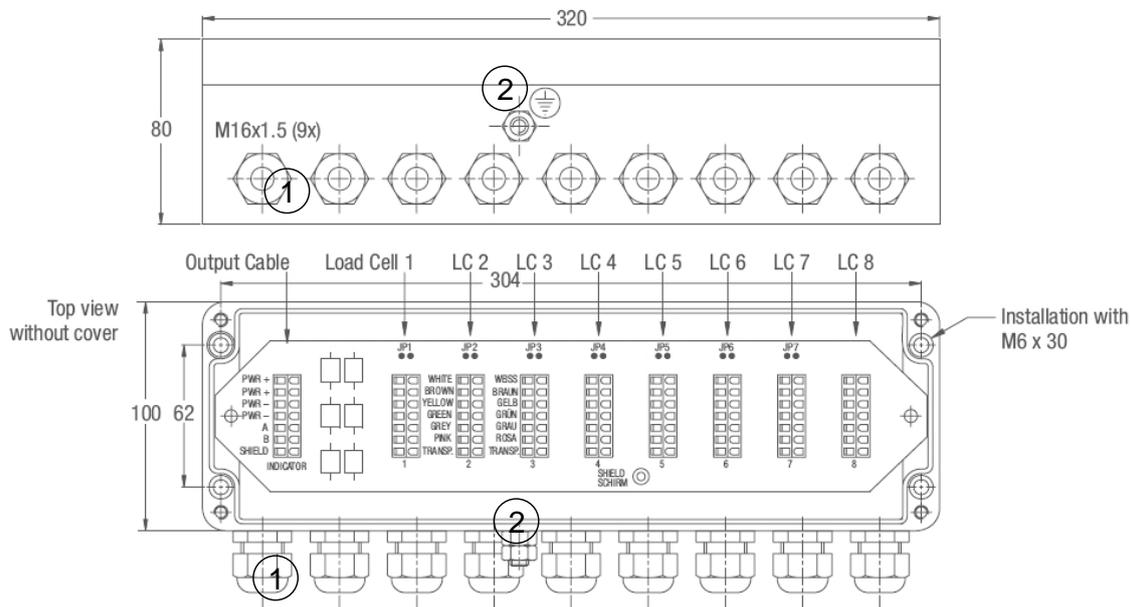

Figure 1: Dimensions in [mm]
The earth screw (see (2) in fig.1) has to be connected to protective earth or you must establish an electrical connection to the weigh modules for potential equalisation.
First the cable gland (see (1) in fig.1) must be loosened. Then you have to feed the load cell cable through the cable gland unless the shrink tube is fully disappeared in the box, because sealing and strain relief must be done at the cable and not at the shrink tube. The wires (wh, br, ye, gn, gr, pk) have to run below the printed circuit board and will be pulled back to the top at the upper end of the printed circuit board. Afterwards you can connect the cables to the screw terminals as indicated below: